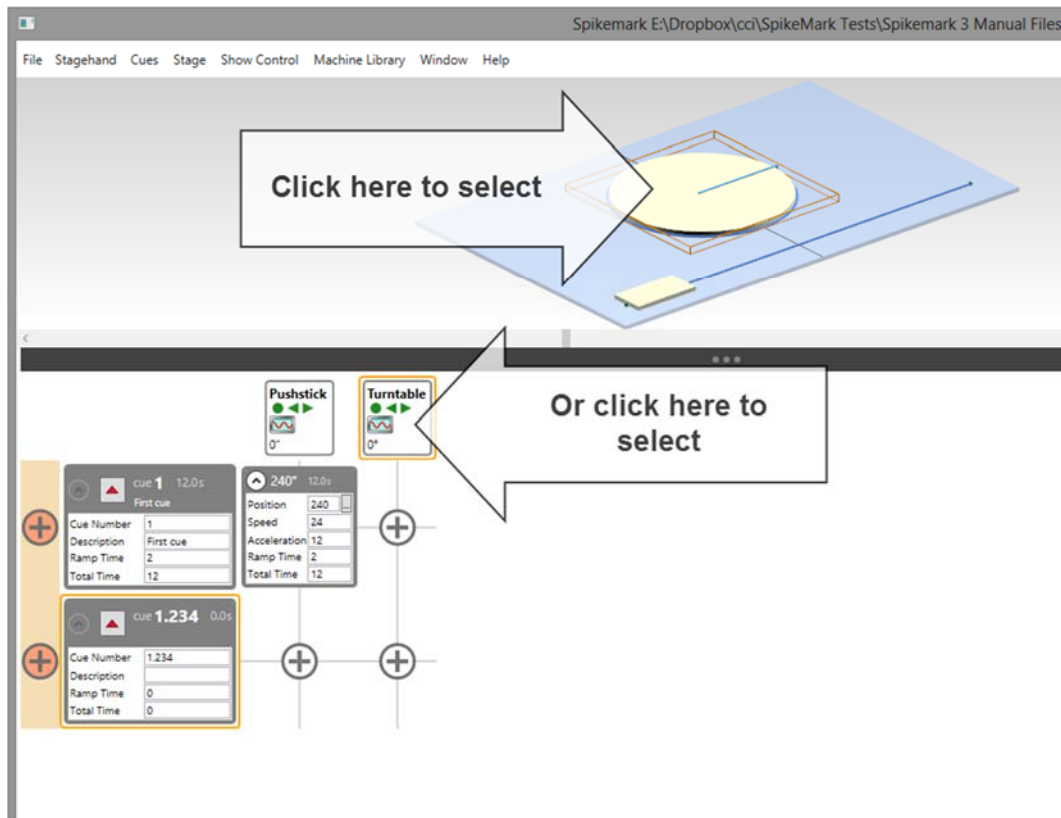

Figure 39
4. Before we add the *Turntable* into *Cue 1.234*, let's manually run it into the position that we wish to record in the cue so we can set the position visually. Select the *Turntable* either by clicking on it in the **Cue Grid** or the **Stage Model Viewer** (Figure 39).